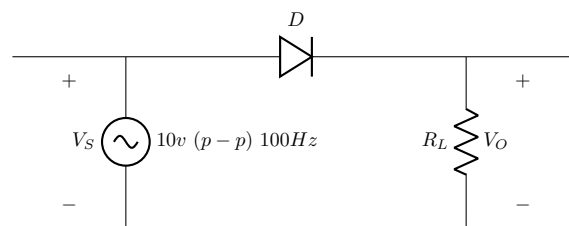

Figure 1: Half-Wave Rectifier
1. Construct circuit of Figure 1. Observe  $V_s$  and  $V_o$  simultaneously on Channel 1 and Channel 2 of the oscilloscope respectively.